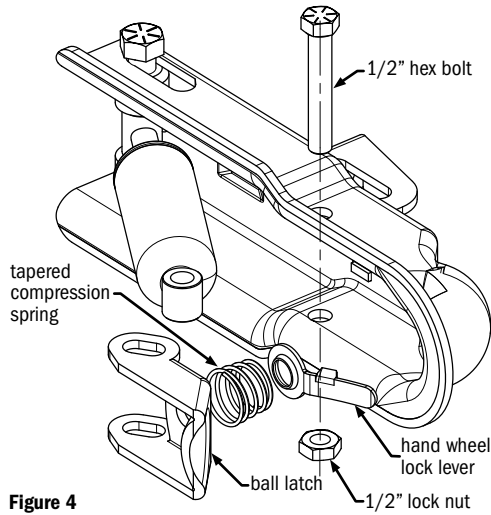

Figure 4
- Using a 5/8" & 11/16" socket or box wrench, remove the attaching bolt & lock nut that goes through the ball latch and shock damper while holding onto the ball latch, swing the shock damper out of the way. Discard the nut and bolt. Remove the ball latch, tapered compression spring, and the hand wheel lever lock and discard. (see Figure 4)